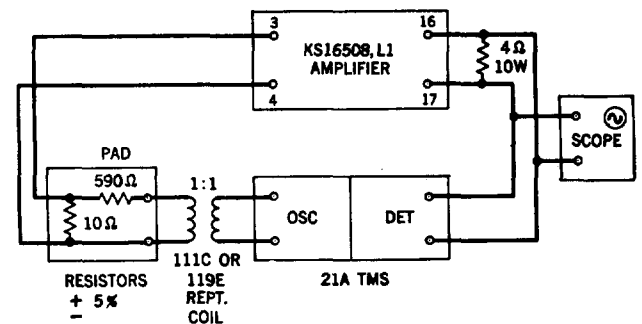

Fig. 2 - Test Setup for Observing Distortion of Reproducing Channel
5.02 The distortion test should be made using the test setup shown in Fig. 2. Chart II outlines the step procedure to be followed when making this test. The procedure will vary slightly depending on the testing equipment used.
2	Connect circuit as shown in Fig. 2.